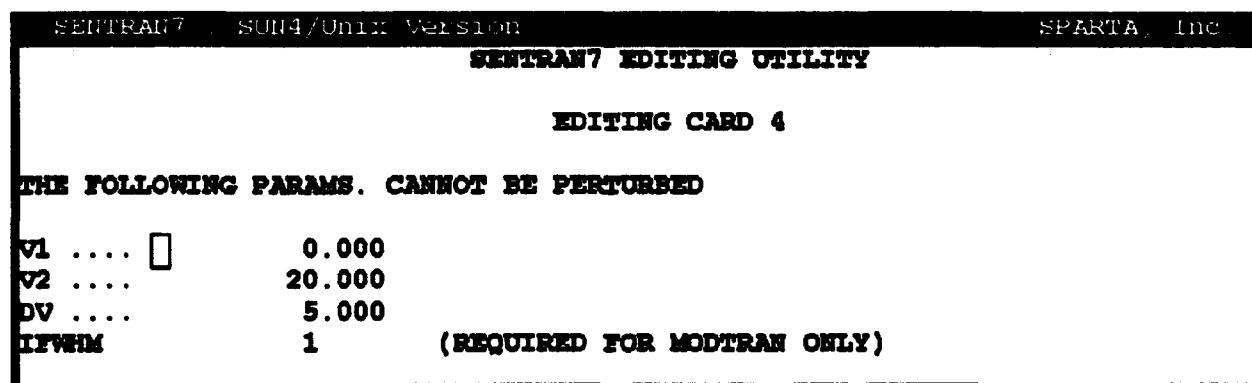

Figure 53. Example of the Screen Used to Edit Card 4
- 13) Once Card 3 has been accepted, Card 4 will appear as shown in Figure 53. Our calculation is concerned only with a single frequency (1300 cm^{-1}). Therefore, we can limit our spectral interval and realize a substantial savings in execution time. V1 will be the current variable, so type '1300'. SENTRAN7 will reformat the line and present V1 in terms of cm^{-1} and microns.